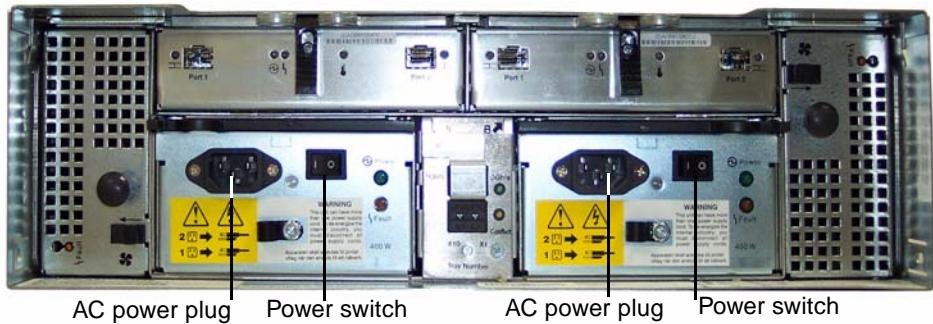

FIGURE 2-21 Expansion Enclosure Back Panel
2. Make sure that the power switches are in the Off position, and then connect both AC power cables to the back of each expansion enclosure (see FIGURE 2-21).